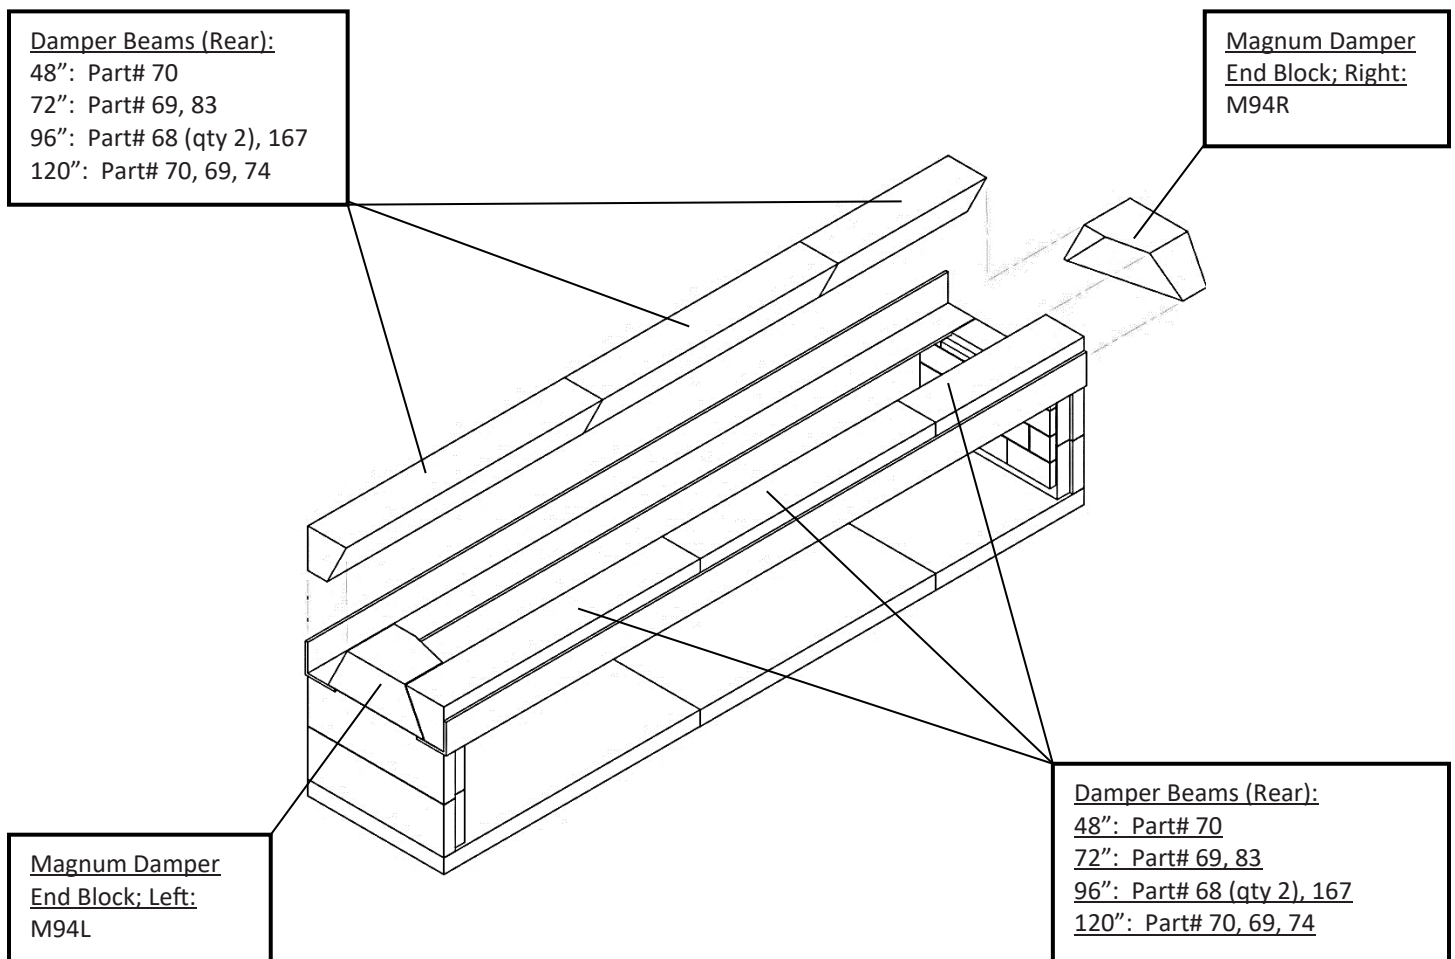

FIGURE 12
6. The fireplaces come with an 8”-thick damper beam assembly, a component group that is to be assembled on top of the firebox side walls and steel angle iron (no steel angle iron in 48” model). The damper beam assembly consists of long lintel pieces and two (2) short damper end blocks. The lintels will be equal to the width of the fireplace model that they serve. These components both sit on their narrow base so that their beveled face points down and into the firebox interior (**Figure 12**).
The damper end blocks are designed to sit on the firebox side wall between the front lintel and the back lintel. Each of the damper end blocks are designed for a specific side of the unit. When properly set, the vertical face of each damper end block will be flush with the outside face of the firebox side wall (**Figure 12**).